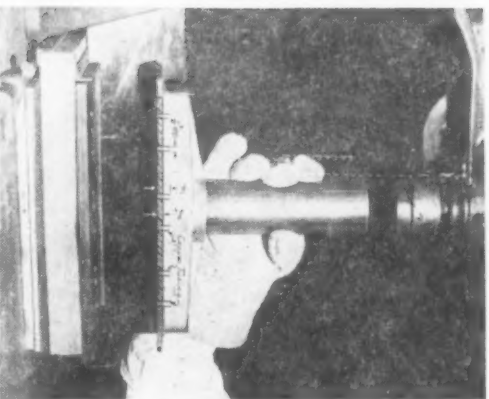

Fig. 1 . . . Cartridge modified for use in preparation of sample for test.
3. A cartridge modified to blow coated sand into the specimen pattern is shown in Fig. 1. This is a commercially available cartridge to which has been attached a 1/4 in. steel plate. To resist sand leakage through the blowholes, copper tubing approximately 1/2 in. long has been depressed into the cartridge through the plate as illustrated.